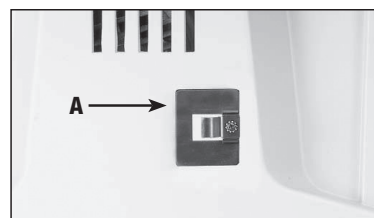
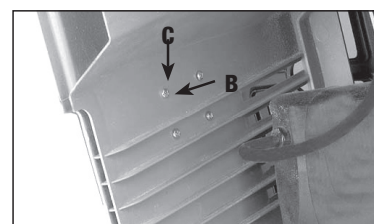

Fig. 21
Fig. 22
2. Attach the miter gauge holder (A) Fig. 21 to the left side of the saw cabinet using the four M4x.2x10mm screws (B) Fig. 22, and 3/16" flat washers (C) from inside of the saw cabinet.